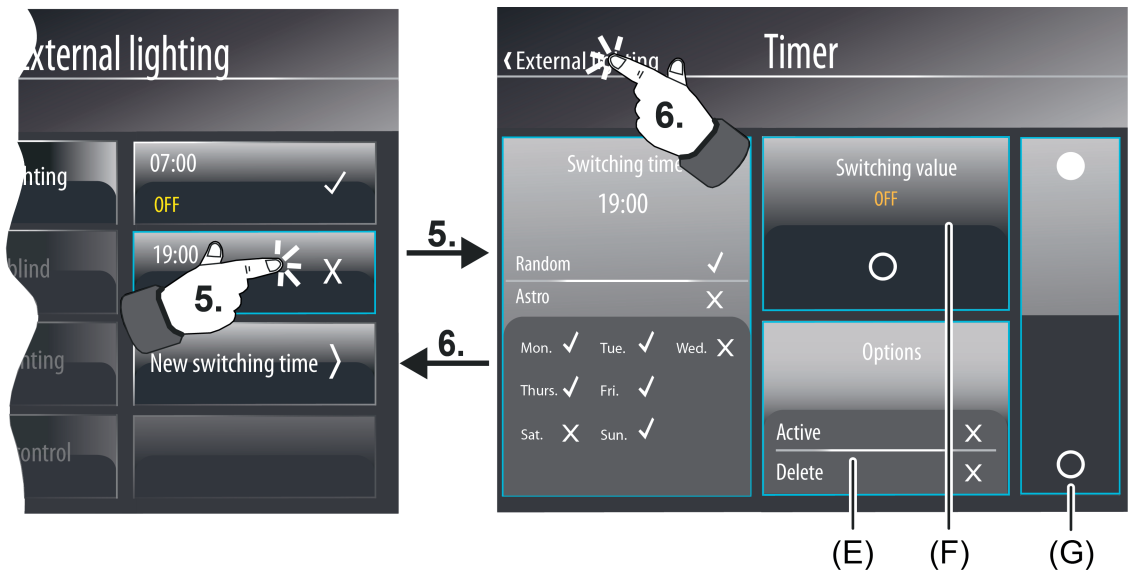

Figure 86: Example of a configuration page for switching times (right) - Data type timer switch channel "Switching"
With the data type "Switching (figure 86), for example, a display area with status text and icon (F) is visible and an operating area (G) for presetting the switching command by a rocker switch. With the data types "Scene" or "Operating mode switchover" status and operating elements are displayed in the same way.